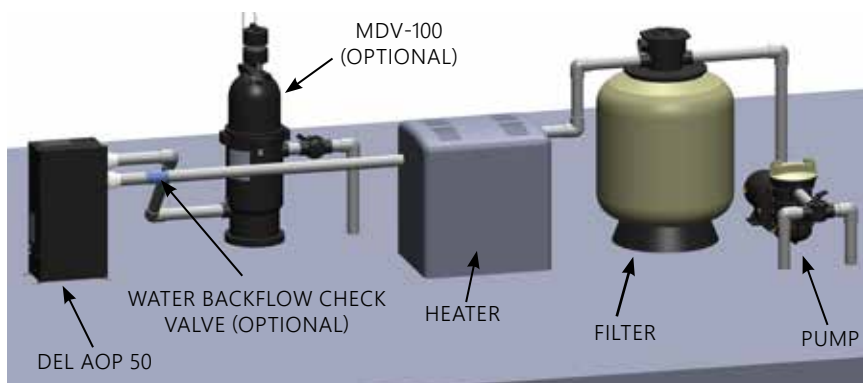

Figure 3: DEL AOP 50 Location in Pool Loop
- Install at least 5 feet (1.5 meters) from wall of pool. Install ozone generator no less than one (1) foot above maximum water level to prevent water from contacting electrical equipment. Install in accordance with the installation instructions.
- The DEL AOP 50 must be installed in an outdoor location, or indoors in a forced air ventilated room, and installed so that the orientation is exactly as shown in **Figure 3**. Install to provide water drainage of generator to protect electrical components.
The DEL AOP 50 must be installed in the pool's main return line after all other pool equipment (pump, filter, heater, and cleaner). The outlet of the SEC (or MDV-100) must be at least 10 feet from the first return to the pool. **Figure 3** shows the most basic installation. For installation with additional sanitizers and pool cleaners, refer to **Appendix A**.
The DEL AOP 50 will come with one half of a union fitting installed on Inlet and Outlet, the other half of the fittings will be located in the DEL AOP 50 parts bag. Use the union fittings provided to connect the DEL AOP 50 inlet and outlet to your pool's plumbing as shown in **Figure 3**.